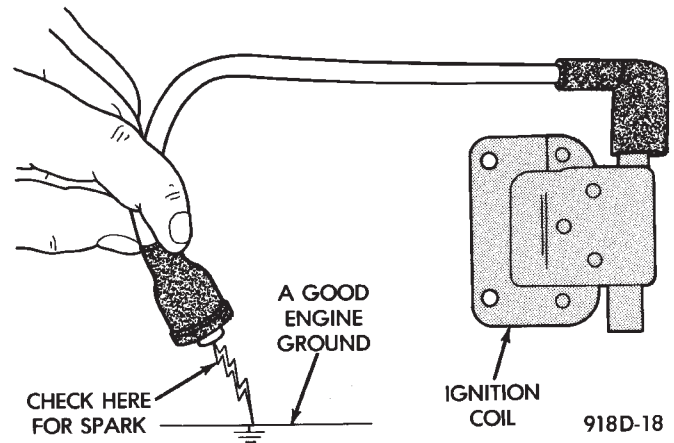

Fig. 11 Checking for Spark—Typical
(1) Disconnect the ignition coil secondary cable from center tower of the distributor cap. Hold the cable terminal approximately 12 mm (1/2 in.) from a good engine ground (Fig. 11).